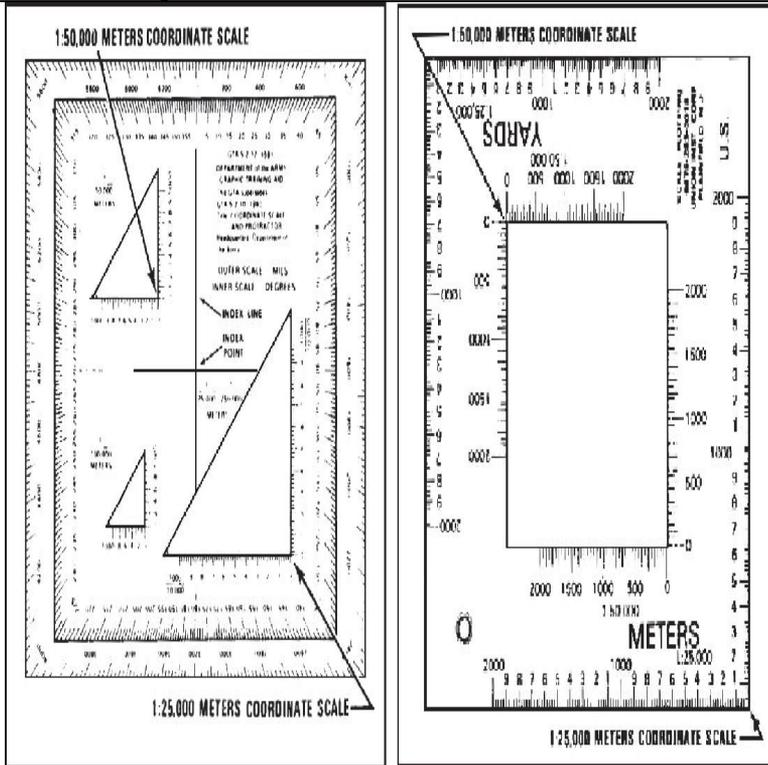

Figure 071-COM-1002-3. Coordinate Scale and Protractor (Left) and Plotting scale (Right).
2. Determine point grid coordinates without a coordinate scale and protractor or plotting scale (Figure 071-COM-1002-2).
a. Locate the grid square where the point is located (Example: Point A in Figure 071-COM-1002-4).